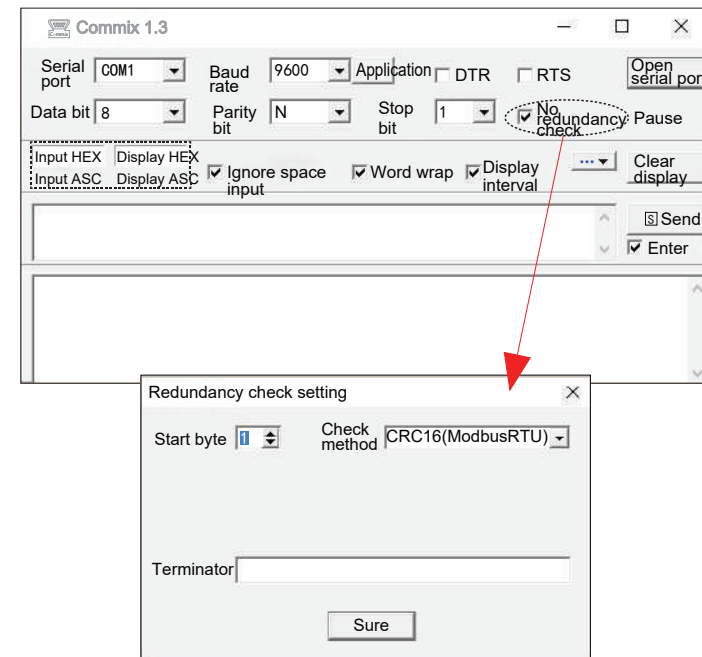

Figure 2
6. Set the data verification mode; set to MODBUS-RTU verification mode, as shown in Figure 2.